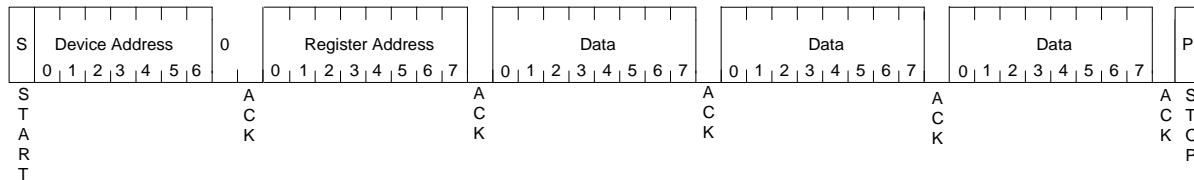

Figure 4-6: I²C Bus 3-byte Data Write
Following the START (S) condition from the master, the device address (7-bits) and the R/W bit (logic low for write) are clocked onto the bus by the master. This indicates to the addressed slave receiver that the register address will follow after it has generated an acknowledge bit (A) during the ninth clock cycle. Therefore, the next byte transmitted by the master is the register address and will be written into the address pointer of the 78M6610+PSU. After receiving another acknowledge (A) signal from the 78M6610+PSU the master device will transmit the data byte(s) to be written into the addressed memory location. The data transfer ends when the master generates a STOP (P) condition. This initiates the internal write cycle. The example in Figure 4-6 shows a 3-byte data write (24-bit register write).